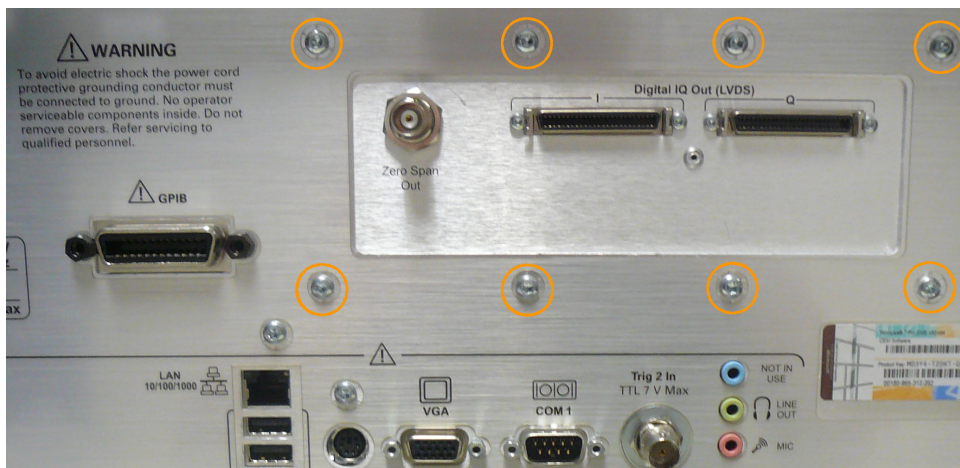

Figure 3: Installing the rear panel cover on the rear panel of the chassis
2. Install the new rear-panel cover (with attached cabling) on the rear panel chassis using eight T15 Torx-head screws. Torque these screws to 10.0 in/lb. (See Figure 3.)